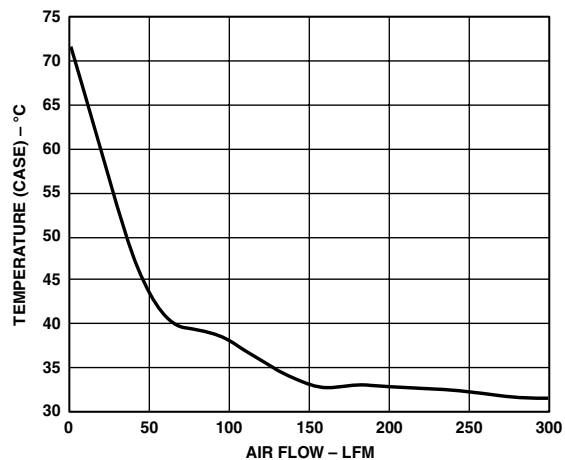

Figure 7. Temperature (Case) vs. Air Flow (Ambient)
- The unit rises to ~72°C ( $t_C$ ) on the heat sink in still air (0 linear feet per minute (LFM)). 100 linear feet per minute (LFM) in either direction across the heat sink is the minimum recommended air flow. See Figure 7.